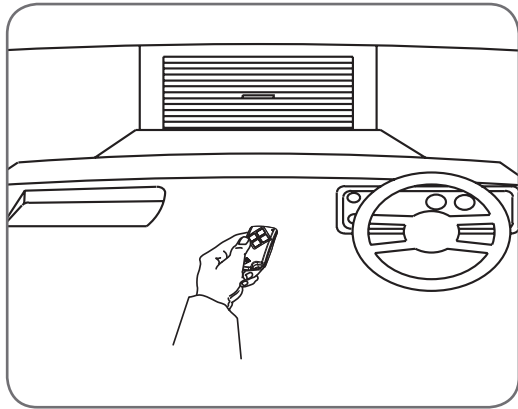

Fig. 41
- If you are in a vehicle you should aim the transmitter through your windscreen (Fig. 41).